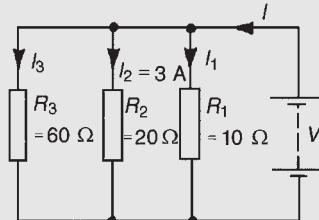

Figure 5.15
**Problem 8.** For the circuit shown in Fig. 5.15, find (a) the value of the supply voltage  $V$  and (b) the value of current  $I$ .